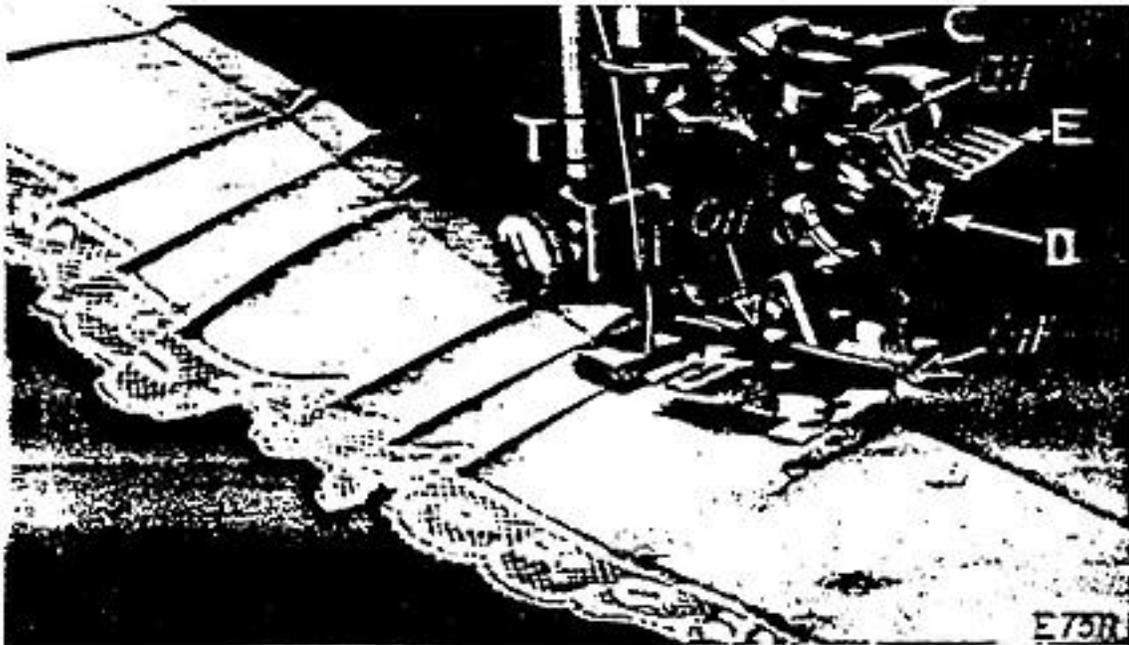

FIG. 32
The ruffler can be adjusted for group plaiting by lifting the adjusting lever (E, Fig. 32) and moving it to the right so that the top of the projection (D, Fig. 32) enters the small slot indicated by the star on the adjusting lever. This should be done at the points where you wish to make the space between the plaits. The ruffler will then stop and plain stitching will be made. When the desired space has been made, adjust the lever (E) so that the projection (D) enters either the slot marked "6" or the slot marked "12". By alternately making groups of plaits and plain spaces, as shown in Fig. 32, very attractive work can be produced.
Occasionally apply a drop of oil to the working parts of the ruffler at each of the places indicated by arrows in Fig. 32. After oiling, operate the ruffler on a waste piece of material to prevent the of] soiling the work. If the ruffler does not plait evenly, a drop of oil may remedy the trouble.